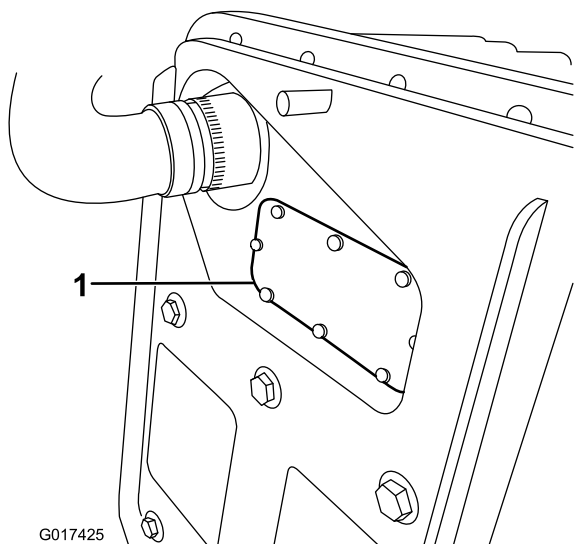

Figure 41
- B. Remove the fuse cover (Figure 41).